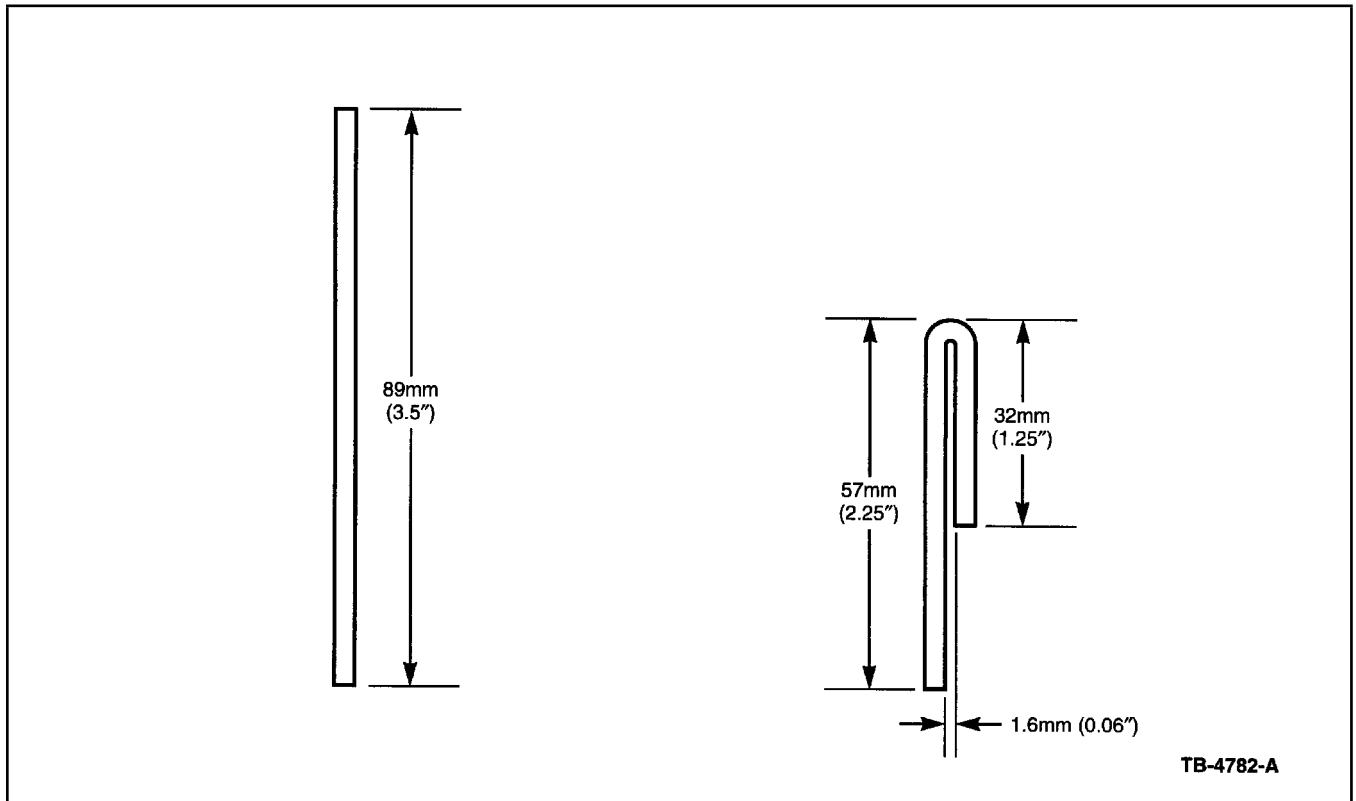

Figure 1 - Article 96-20-8
- b. Fabricate a cleaning tool (Figure 1).